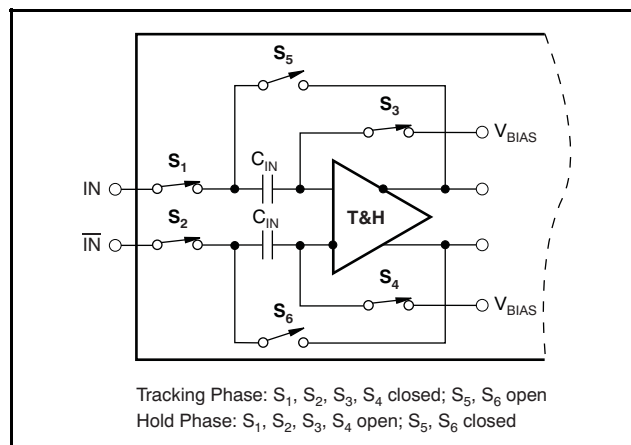

Figure 20. Simplified Circuit of Input Track-and-Hold Amplifier of ADS5220
The ADS5220 is a 12-bit, 40MSPS, CMOS ADC designed with a fully differential pipeline architecture. The pipeline consists of three sections: a 3-bit quantizer, seven stages with a 1.5-bit quantizer for each stage, and a 4-bit flash. The output of each pipeline stage is processed and formed into 12-bit data in the digital error correction logic section to ensure good differential linearity of the ADC. The converter includes a high bandwidth track-and-hold amplifier in the input stage as shown in Figure 20. The falling edge of the input clock initiates the conversion process. Once the signal is captured by the input track-and-hold, the bits are sequentially encoded starting with the Most Significant Bit (MSB). This process results in a data latency of 4.5 clock cycles. The ADS5220 includes a high accuracy internal reference and also allows the use of an external reference. The input full-scale range is up to $2V_{PP}$ and is selectable based on the reference voltage setting. For normal operation, both analog inputs (IN, \overline{IN}) require an external common-mode voltage as a bias. The output data of the ADS5220 are available as a 12-bit parallel word, either coded in a Straight Offset Binary or Binary Two's Complement format. The ADS5220 includes an on-chip duty-cycle adjust (DCA) circuit, controlled through the state of the *Mode Select* pin (3). When activated, this duty-cycle adjust circuit can accommodate for an incoming clock duty-cycle range